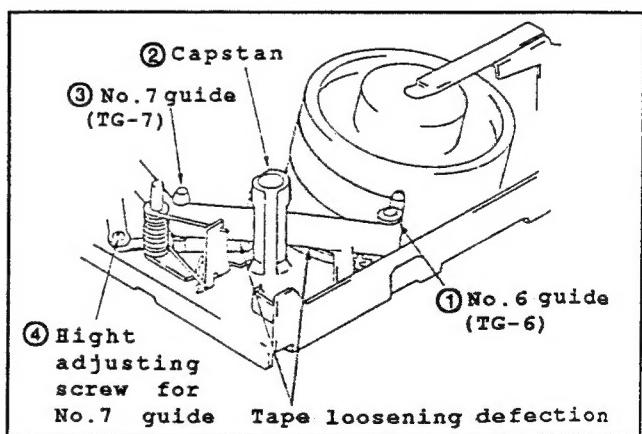

Fig.II-40
- (1) Playback the tape having 10µm in thickness (P6-120 etc.). Then, set it to REV mode.
- (2) Confirm that the tape is not creased at the lower flange ② of No.2 guide ①. If creased, turn the upper flange ③ of No.2 guide ① clockwise until the crease removed.
- (3) Playback the Alignment tape for tracking adjustment.
- (4) In the same procedures in "4-2" and "4-3", perform the tracking and tracking fine adjustments.
- (5) At track shift mode, playback the tape after CUE/REV mode. Confirm that the RF envelope rises horizontally within 2 sec as shown in Fig.II-40.
- (6) If not, turn the upper flange ③ of No.2 guide ① counter clockwise by 90°. Then, perform the step (5) again.
4-5 No.7 Guide Adjustment (Fig.II-40)